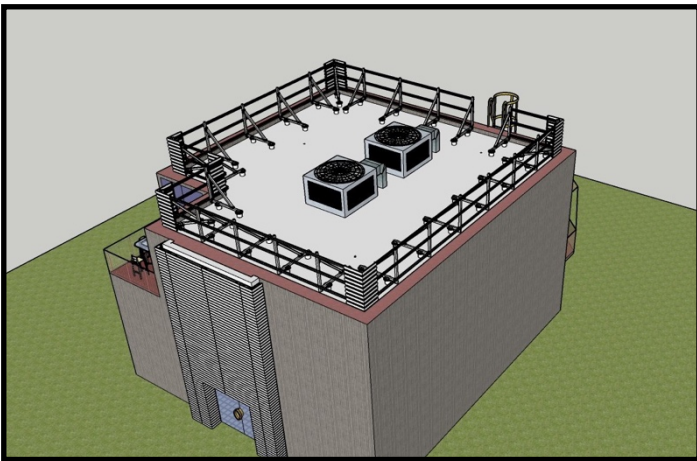

Fig 16
15. Complete the installation of all the Corner Screens (Fig 16).